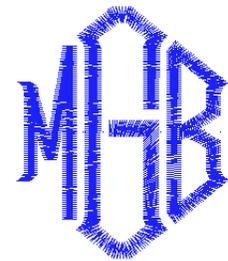

Figure 6-1
6. Click on OK to display the monogram (see Figure 6-1).